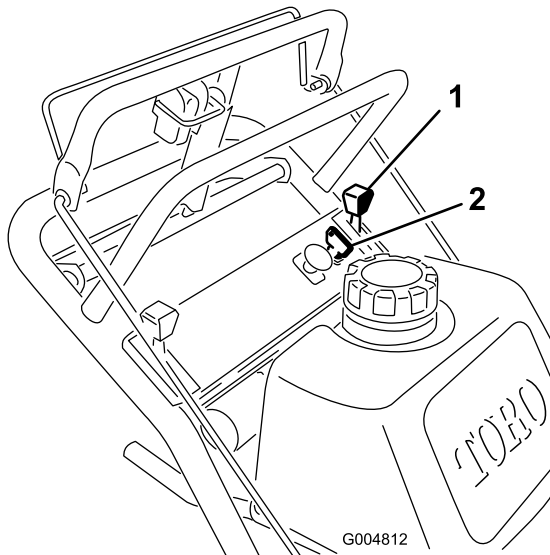

Figure 16
1. Move the throttle lever to the **slow** position (Figure 16).
3. Turn the ignition key to **off** (Figure 16).